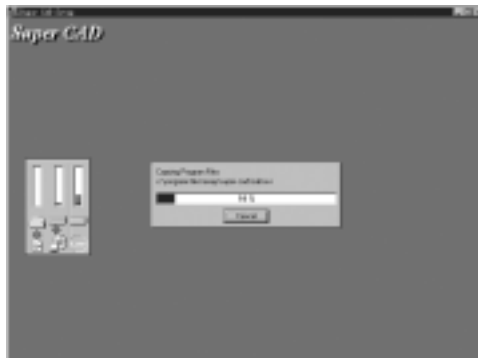

Fig 1.8 Setup window
- Click NEXT to enter the next step of installation and the contents of the program will be installed, as shown in Fig.1.8.